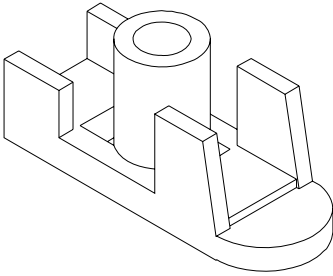
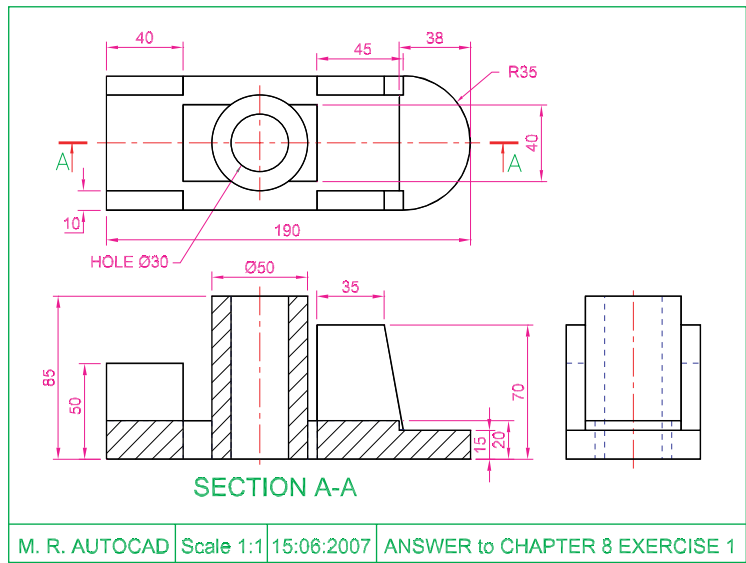

Fig. 8.19 Exercise 1 – a pictorial view
Fig. 8.20 Exercise 1
Seventh example – Advanced hatching (Fig. 8.20)
1. Fig. 8.19 shows a pictorial drawing of the component shown in the three-view orthographic projection in Fig. 8.20. Construct the three views, with the front view as a sectional view based on the section plane A-A.